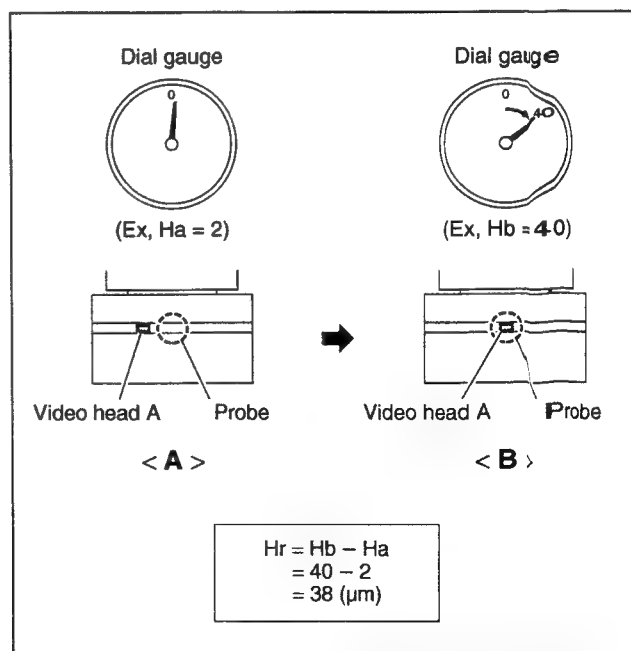

Figure 4. Example of Head Tip Protrusion Measurement
1. Turn the upper drum manually counterclockwise (⤿) very slowly to approach a video head aside of the probe. (Refer to <A> in Figure 4.)
3. Turn the upper drum manually counterclockwise (⤿) very slowly to center the video head in the probe. (Refer to in Figure 4.)